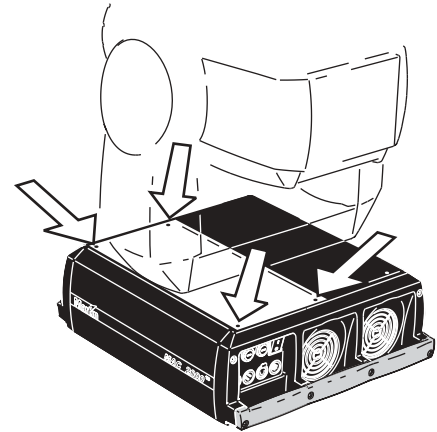

Figure 8: Power
- 1 Disconnect the fixture from AC power. Remove the rear base cover as shown in Figure 8.